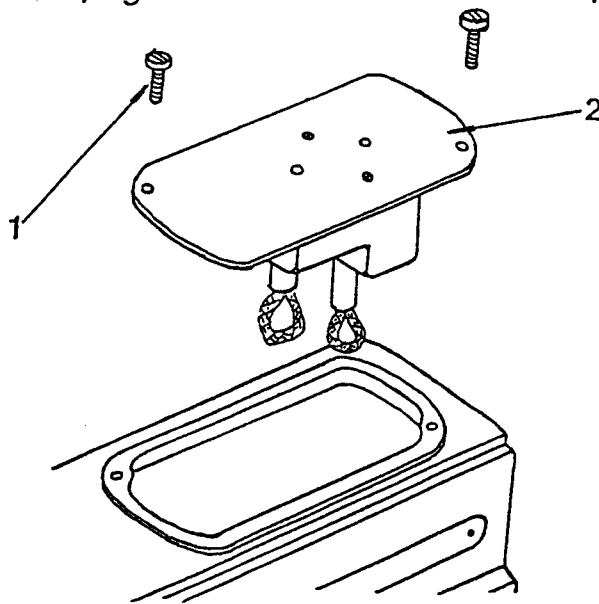
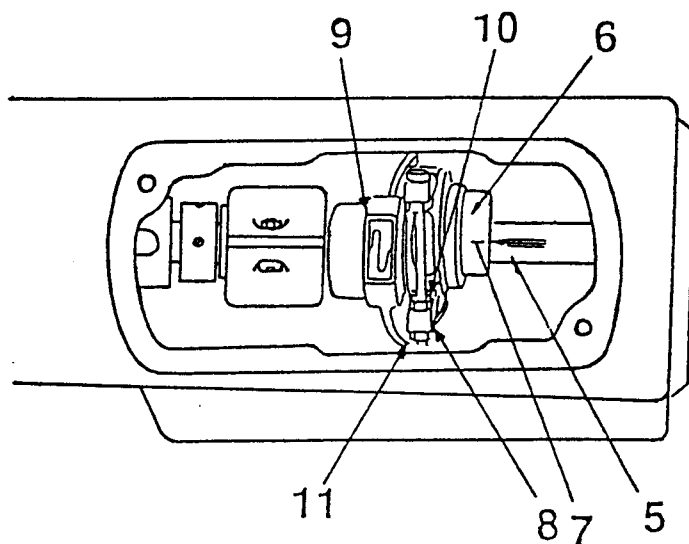

Fig.16
Fig.17
TIMING THE NEEDLE WITH FEED (Fig.16, Fig.17)
Incorrect clearance between the fork (4, Fig.17) of feed forked connection and feed fork collar (5, Fig.17) will bring irregular stitch length or overheating, etc. To adjust this, open the cover plate (1, Fig.17).
1. Remove the cover plate (3, Fig.16) and the oil reservoir (4, Fig.16).
2. To increase the clearance, loosen the screw (10, Fig.17) and turn the screw (11, Fig.17) to left or counter-clockwise.